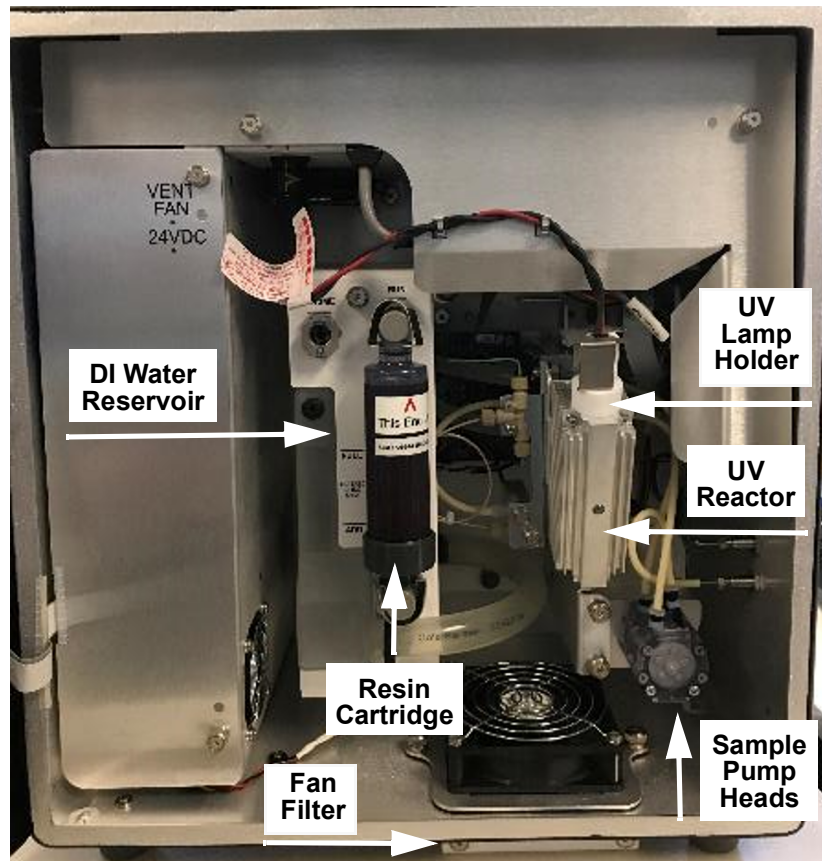

Figure 8-1: Interior Overview of the Analyzer
5. Locate the DI water reservoir. (See Figure 8-1 on page 418).
5. Locate the UV lamp enclosure at the right of the Analyzer (Figure 8-1 on page 418). The UV lamp has a red and black wire with a black connector extending from the UV Lamp Holder.
Have paper towels available during the procedure in case water leaks from the old pump heads during the removal process. Reference the Figure 8-1 on page 418, as needed.